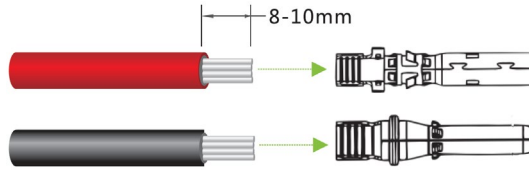

Figure 4-15 DC Wire stripping
- Check the polarity before terminating the DC cables of PV strings according to the following steps, as shown in figure 4-15: